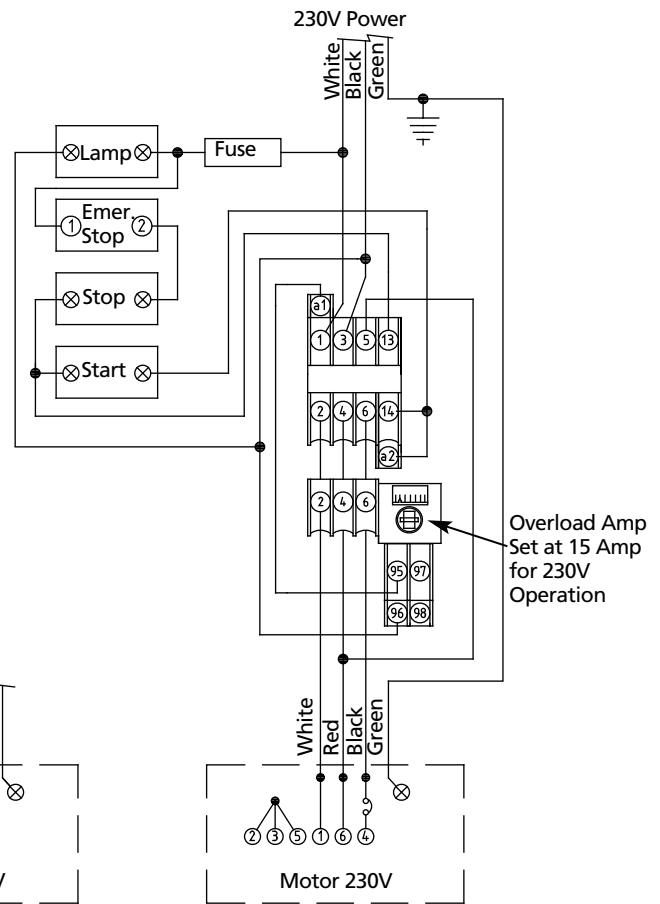

Figure 3 - Wiring Schematic
Refer to Figure 3, page 4.
1. Change motor wiring to 115 volts. Refer to Figure 3 or motor nameplate.